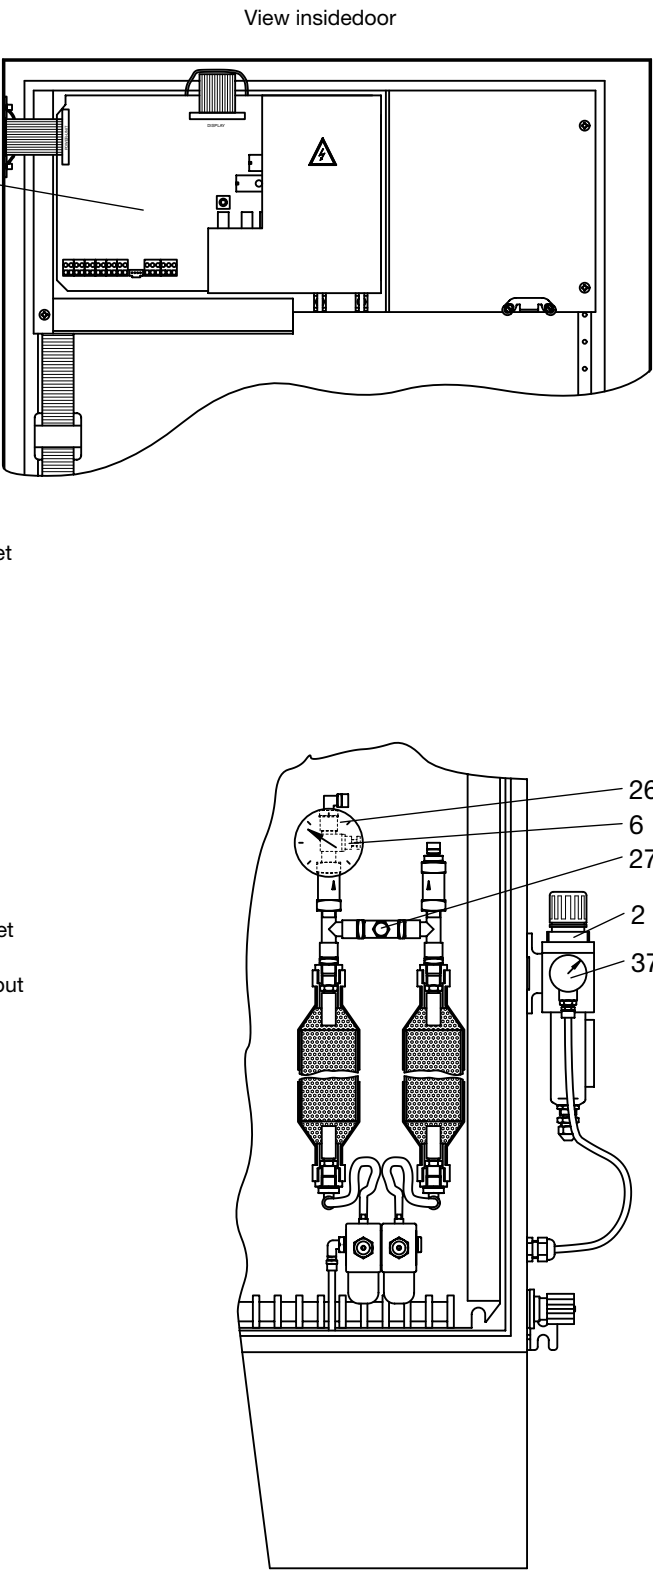

Fig. 4: Adsorber drier, front view
The adsorber drier (Fig. 4), connected downstream from the compressor, is designed for ambient temperature of a max. 40 °C and air humidity of up to 85 %. The pressure dewpoint of the air at the outlet (6) of the adsorber drier is less than -60 °C:
The flow of process air is adjusted by the regulating valve (6) on the adsorber drier, and the flow of regenerating air is adjusted by regulating valve (27) (see Fig. 4).